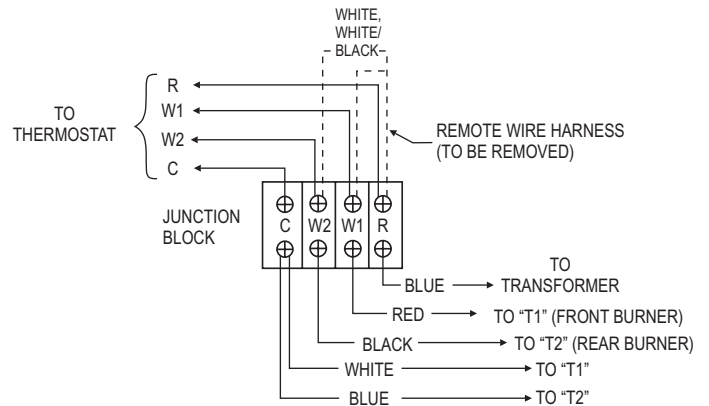

Figure 60
Determine the mounting location of the thermostat. Using standard 18 AWG wire, run four (4) strands of wire to the back of the appliance and to the junction block. Cut the wire to the correct length. See Figure 60.